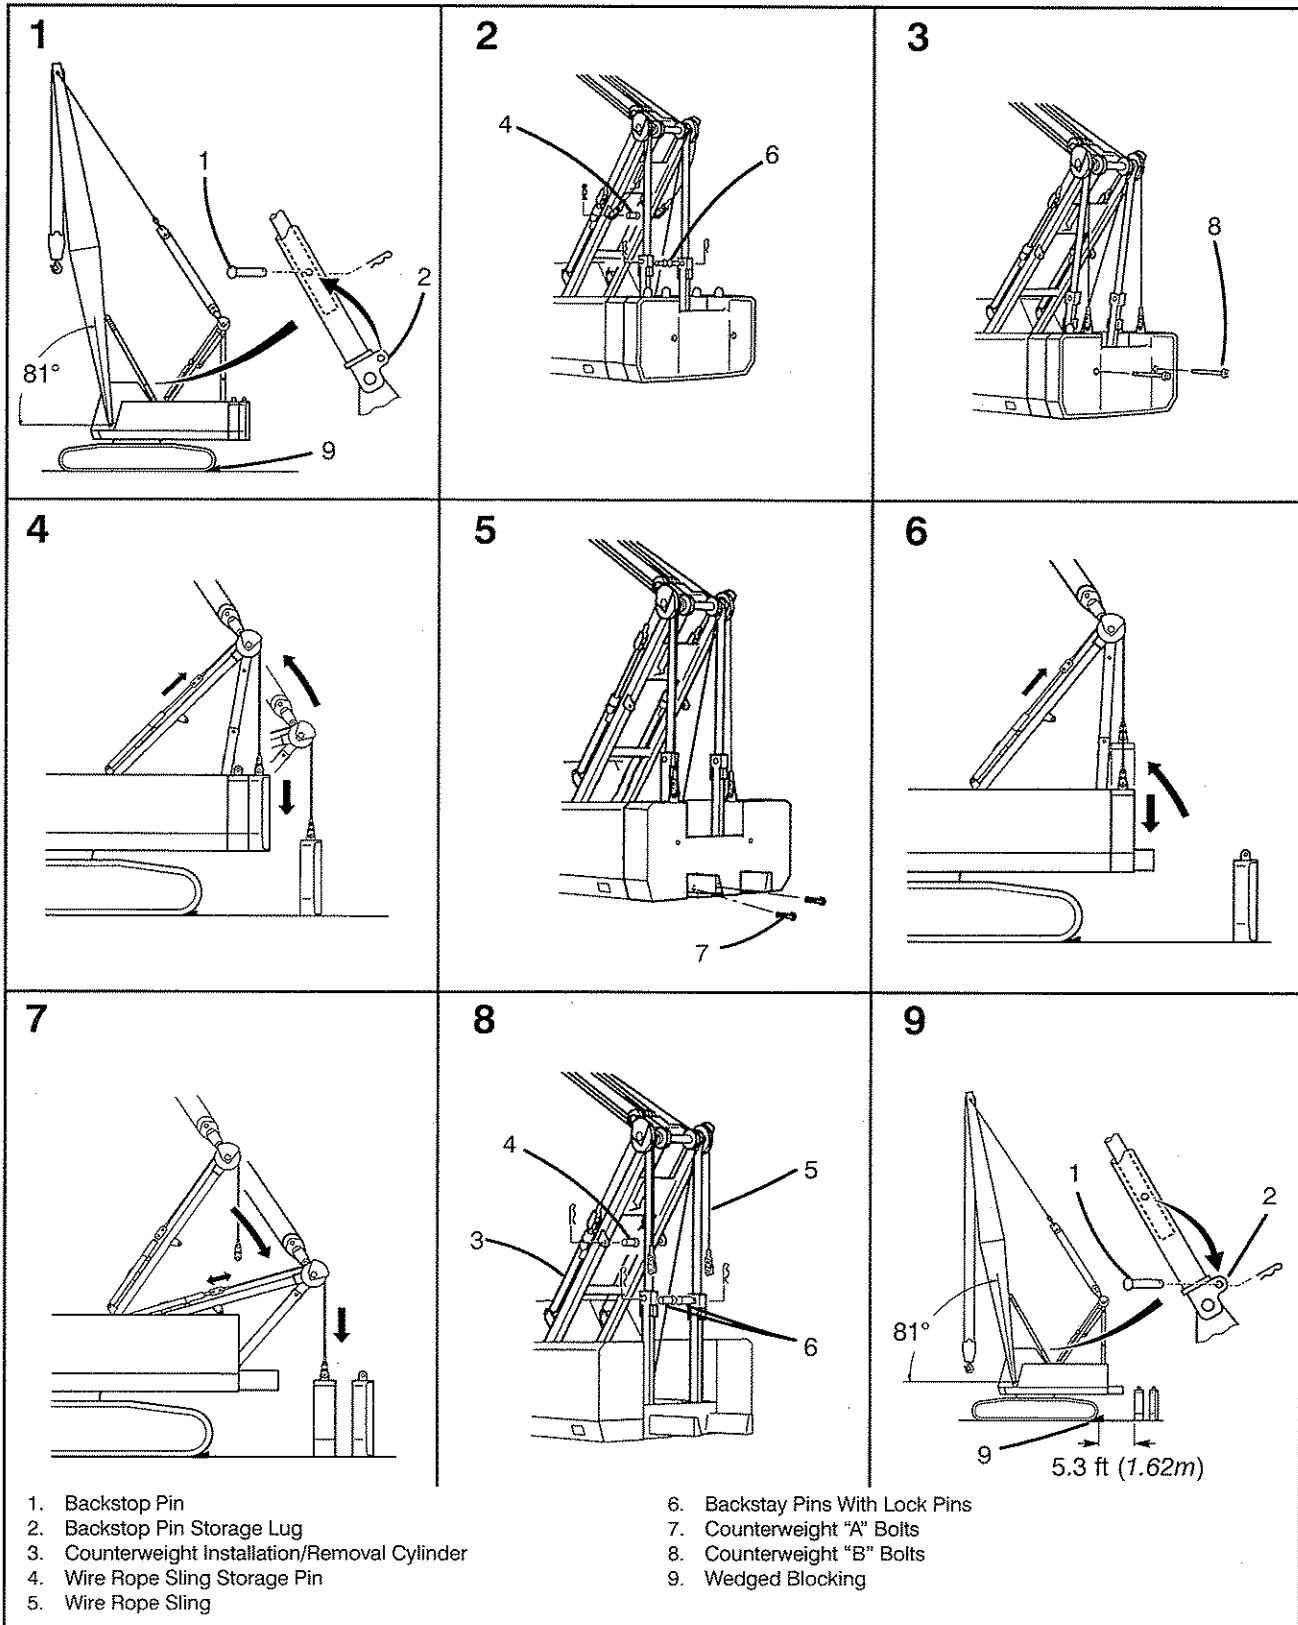

Figure 1-81
6. Boom up to 81 degree boom angle. Remove the backstop pins from the backstop pin storage lugs and install them in the backstops. Secure with the lock pins. Refer to Figure 1-81.
24. Connect the wire rope slings on the counterweight installation/removal cylinders to counterweight "B". Refer to Figure 1-81.
35. Connect the wire rope slings on the counterweight installation/removal cylinders to counterweight "A". Refer to Figure 1-81.
42. Raise/lower the gantry as required and pin it in the high position with the backstay pins. Secure with lock pins. Refer to Figure 1-81.